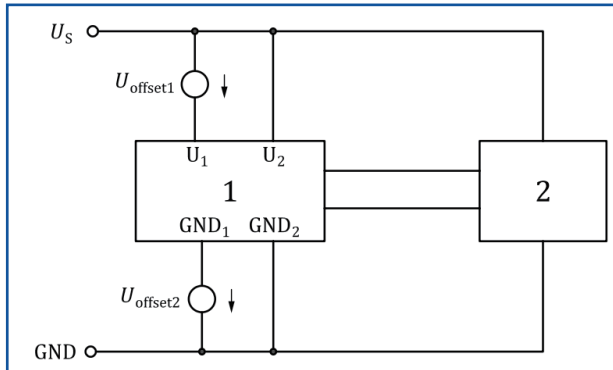

Figure 18 — Example of ground reference and supply offset on a DUT with two ground/supply paths
■ This test serves to verify reliable operation of a component if two or more power supply paths exist (note that this is not necessarily the same as redundant power supply feeds to a DUT). For instance, a component can have a power ground and a signal ground that are outputs on different circuits (e.g. for a DUT with two ground connections and two supply connections given in Figure 18).
■ The offset shall be applied to each ground/supply line separately (see Figure 18), and test shall be repeated for each possible ground/supply line combination. For overview of the test coverage, creating a test matrix showing the possible combinations can be advisable. Example of such a test matrix is given in Table 17.